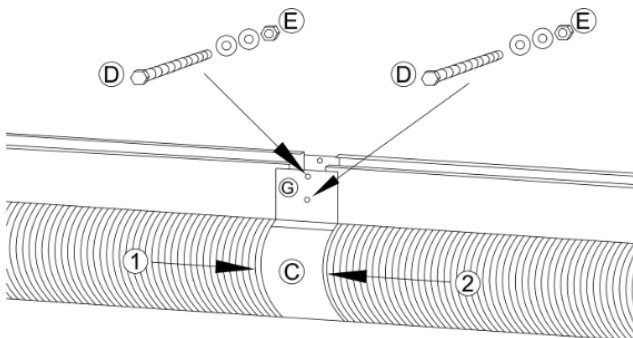
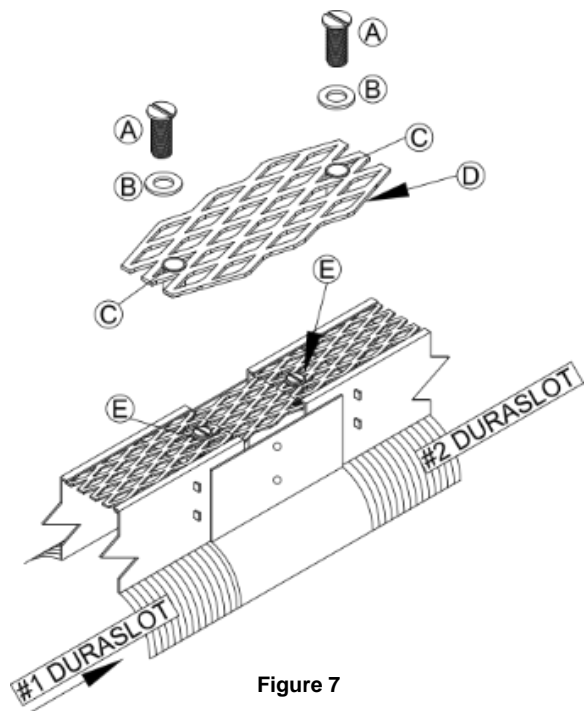
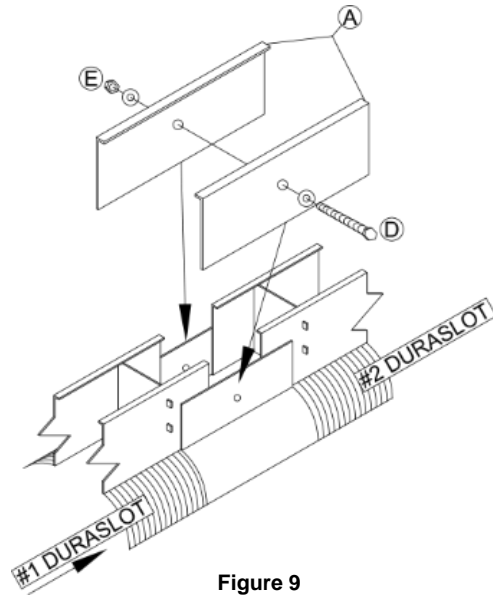

Figure 6
Figure 7
Figure 9
1. (Figure 6) Put the first section of Duraslot pipe (1) into the excavated trench.
2. Wrap coupler band (C) around the end of the Duraslot pipe (1) leaving the bolt holes (G) in the metal past the end of the pipe's slot.
3. (Figure 7) Slide grate connector (D) under the grate on Duraslot pipe (1).
4. Screw the first pan head screw (A) with washer (B) through hole (C) into the grate at point (E).
5. (Figure 6) Position the next piece of Duraslot pipe (2) so that the grate connector (D) slides under grate.
6. Insert hex head screws (D) with washers on both sides through the holes (G) in the coupler band (C) and tighten the hex head nut (E).
7. (Figure 7) Screw the second pan head screw (A) with washer (B) through hole (C) into the grate at point (E).
1. Refer to (Figure 6) Put the first section of Duraslot pipe (1) into the excavated trench.
2. Wrap the coupler band (C) around end of the Duraslot pipe (1) leaving the bolt holes (G) in metal past the end of the pipe's slot.
3. Position the next piece of Duraslot pipe (2) into the coupler band.
4. Insert hex head screw (D) with washers on both sides through the bottom hole (G) in the coupler band (C) and tighten hex head nut (E).
5. (Figure 9) Set band flanges (A) over the joint.
6. Insert hex head screw (B) with washers on both sides through the top hole and tighten the hex head nut (C).